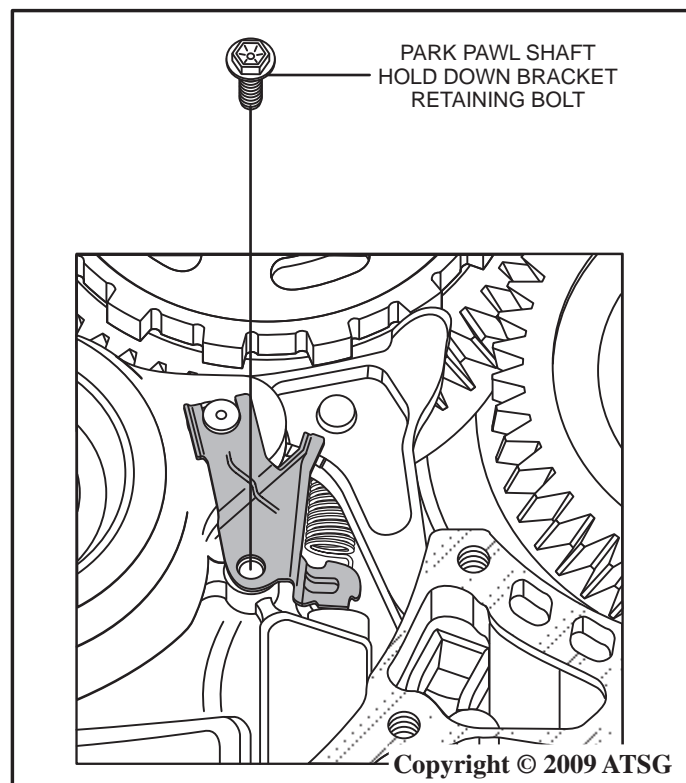

Figure 32
43. Remove the park pawl shaft hold down bracket retaining bolt as shown in Figure 32.